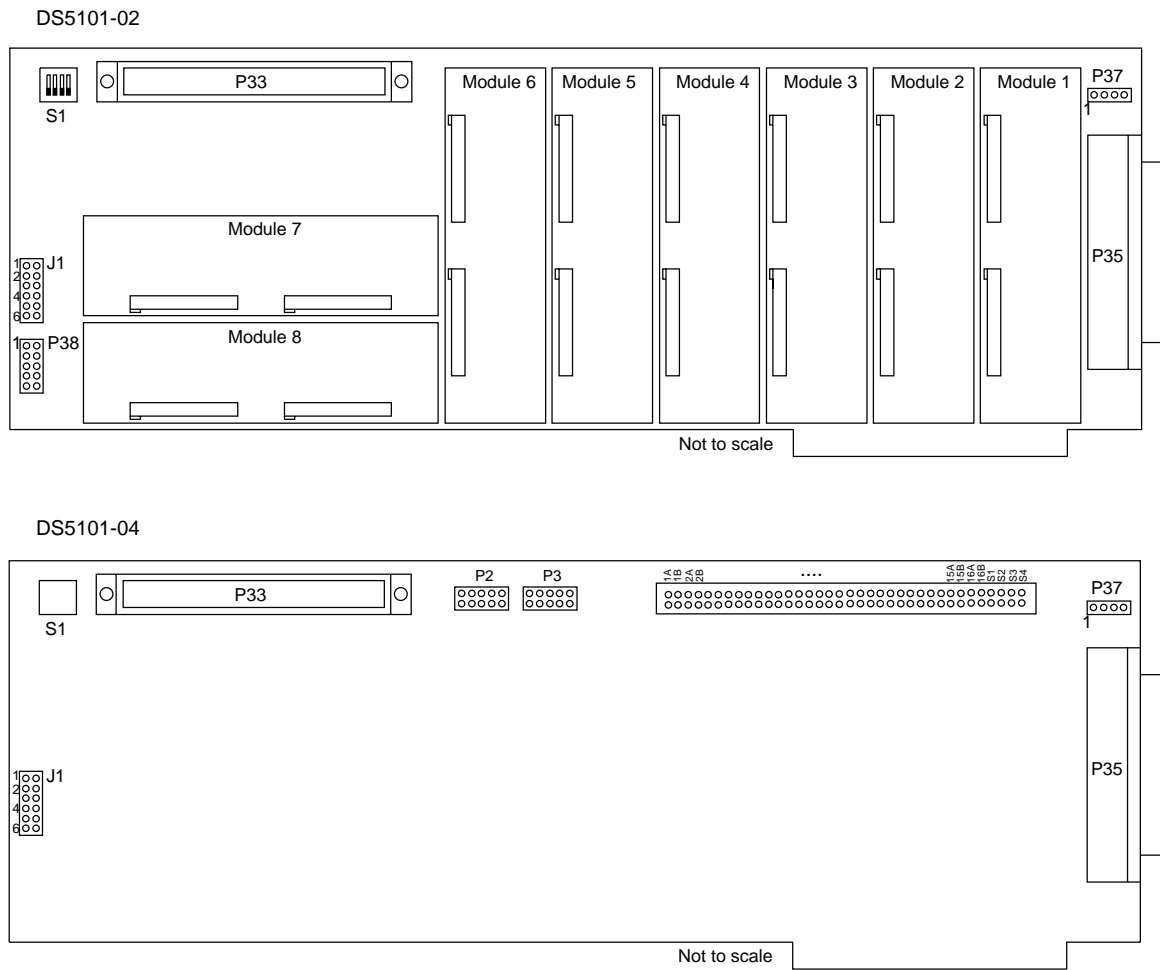

Figure 5.3.1. Module, jumper and connector locations.
- Insert the DS5101M module into the **next free** socket (refer to figure 5.3.1).
The I/O connector is a 37-pin female SUB-D connector located on the rear bracket of the DS5101 (refer to figure 5.3.1). The connector provides signal groups as shown in table 5.3.3. A mating 37-pin male SUB-D connector is delivered with the board.